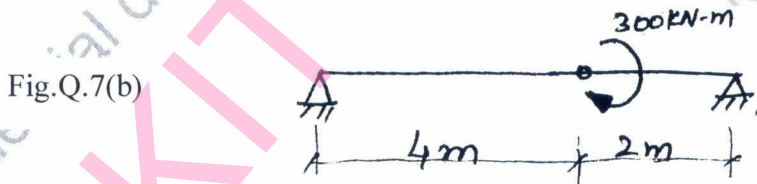

Fig.Q.7(b)
b. A simply supported beam of span 6m and uniform flexural rigidity $EI = 40000 \text{ kN-m}^2$ is subjected to clockwise couple of 300 kN-m at a distance of 4m from the left end as shown in the Fig.Q.7(b). Find the deflection at the point of application of the couple and internal loads. (12 Marks)